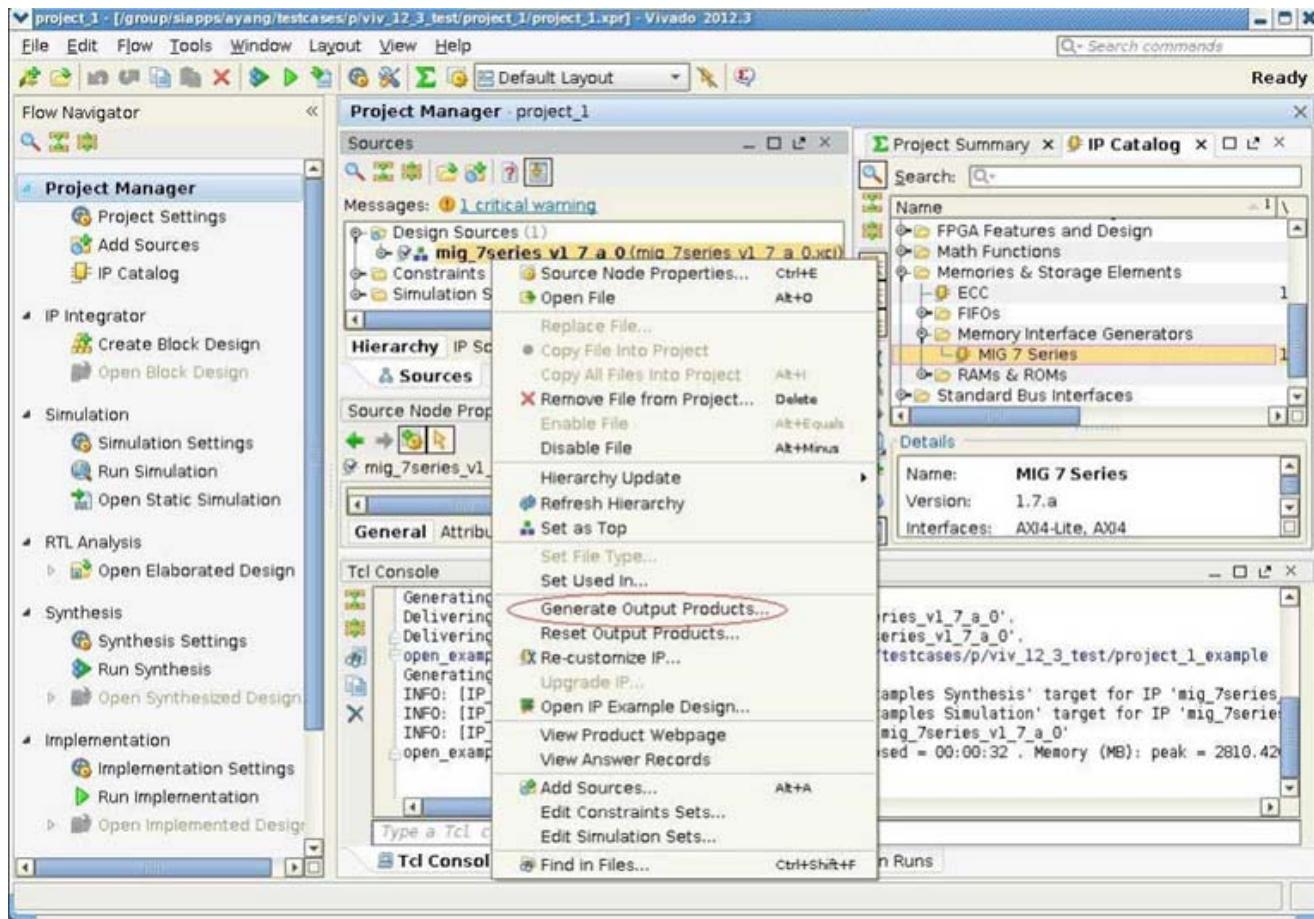

Figure 6-16: Generate RTL and Constraints
16. All MIG generated user design RTL and XDC files are automatically added to the project. If files are modified and you wish to regenerate them, right-click on the XCI file and select **Generate Output Products** (Figure 6-16).